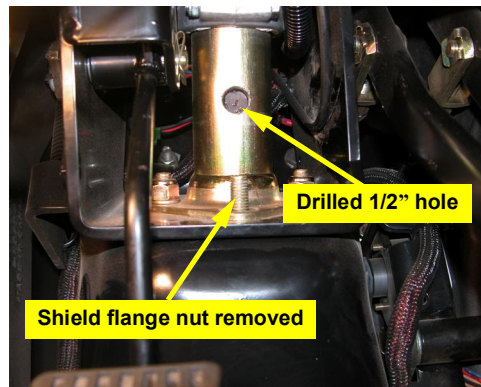

Figure 1c: Drilled shaft shield and installed magnets
- c. Remove the bottom steering shaft shield flange nut. Using the bent sensor arm as a template, drill a 1/2" hole in the steering shaft shield (Figure 1c).
- d. Attach sensor **SD** to the bracket **SC**. Fasten the sensor arm to the steering shaft shield flange with the nut removed at 1c (Figure 1c).